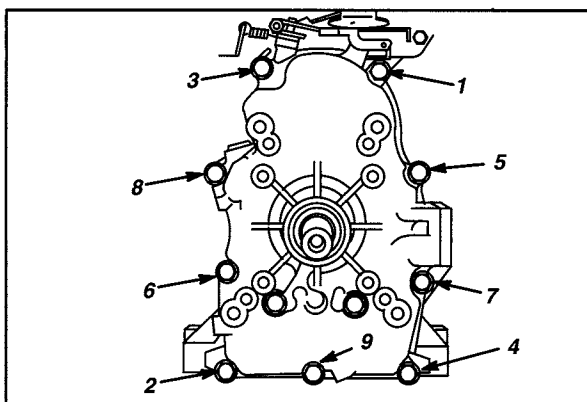

Fig. 12
3. Install crankcase cover or sump with new gasket. Torque screws in sequence shown to **150 in. lbs. (17 Nm)**, **Fig. 12**.